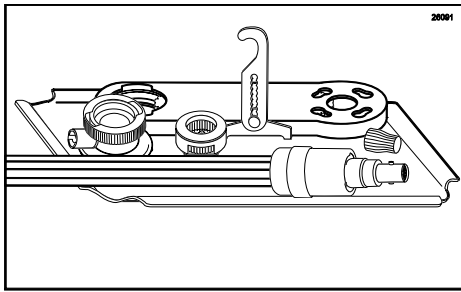

Figure 128
5. Place the 9-Tube Assembly and Manifold cap on a sanitary tray to dry. (See Figure 128.)